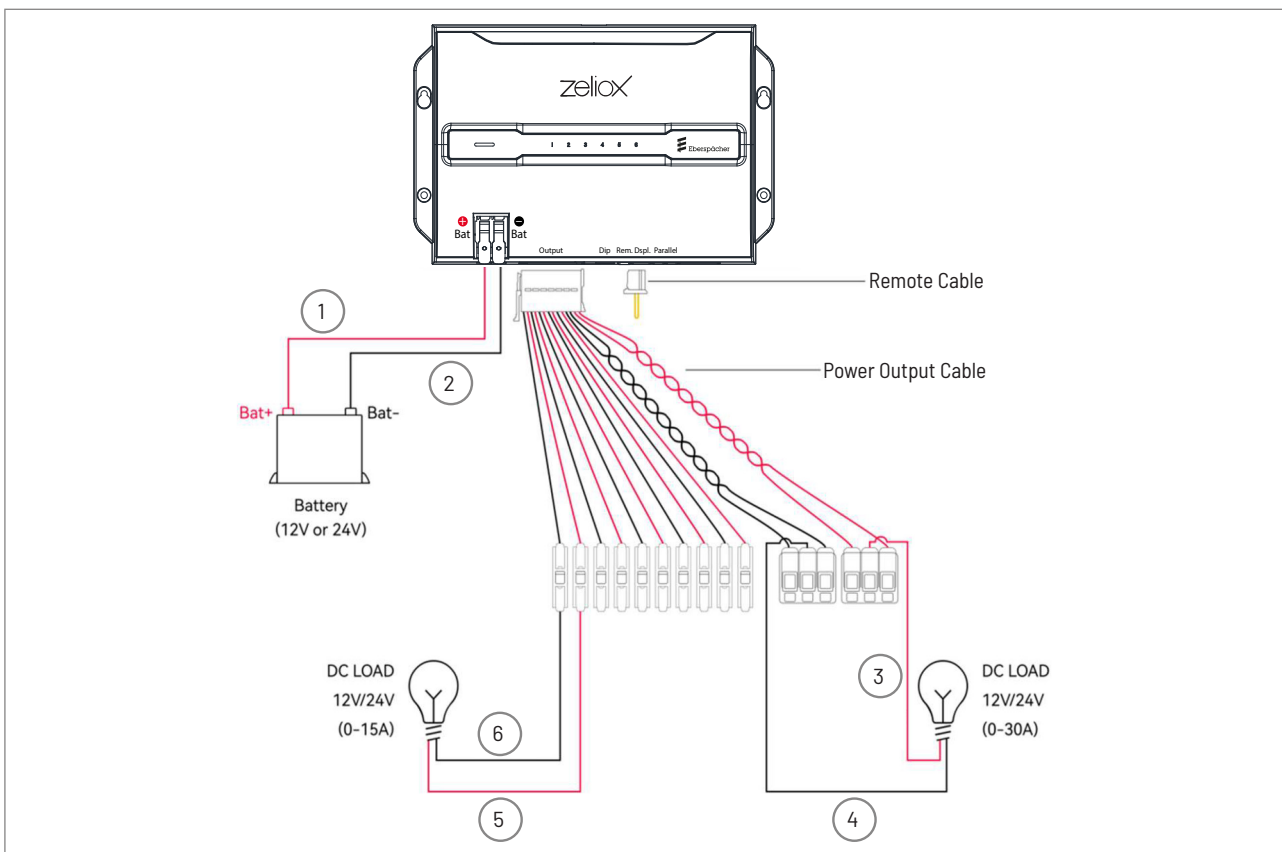

Figure 3: Single wiring
- > Remove the dust cap from the input terminal, connect BAT- to battery negative terminal, and connect BAT+ to battery positive terminal. Please see Figure 3.
- > Connect Output- to DC Load-, and connect Output+ to DC Load+ Please see Figure 3.